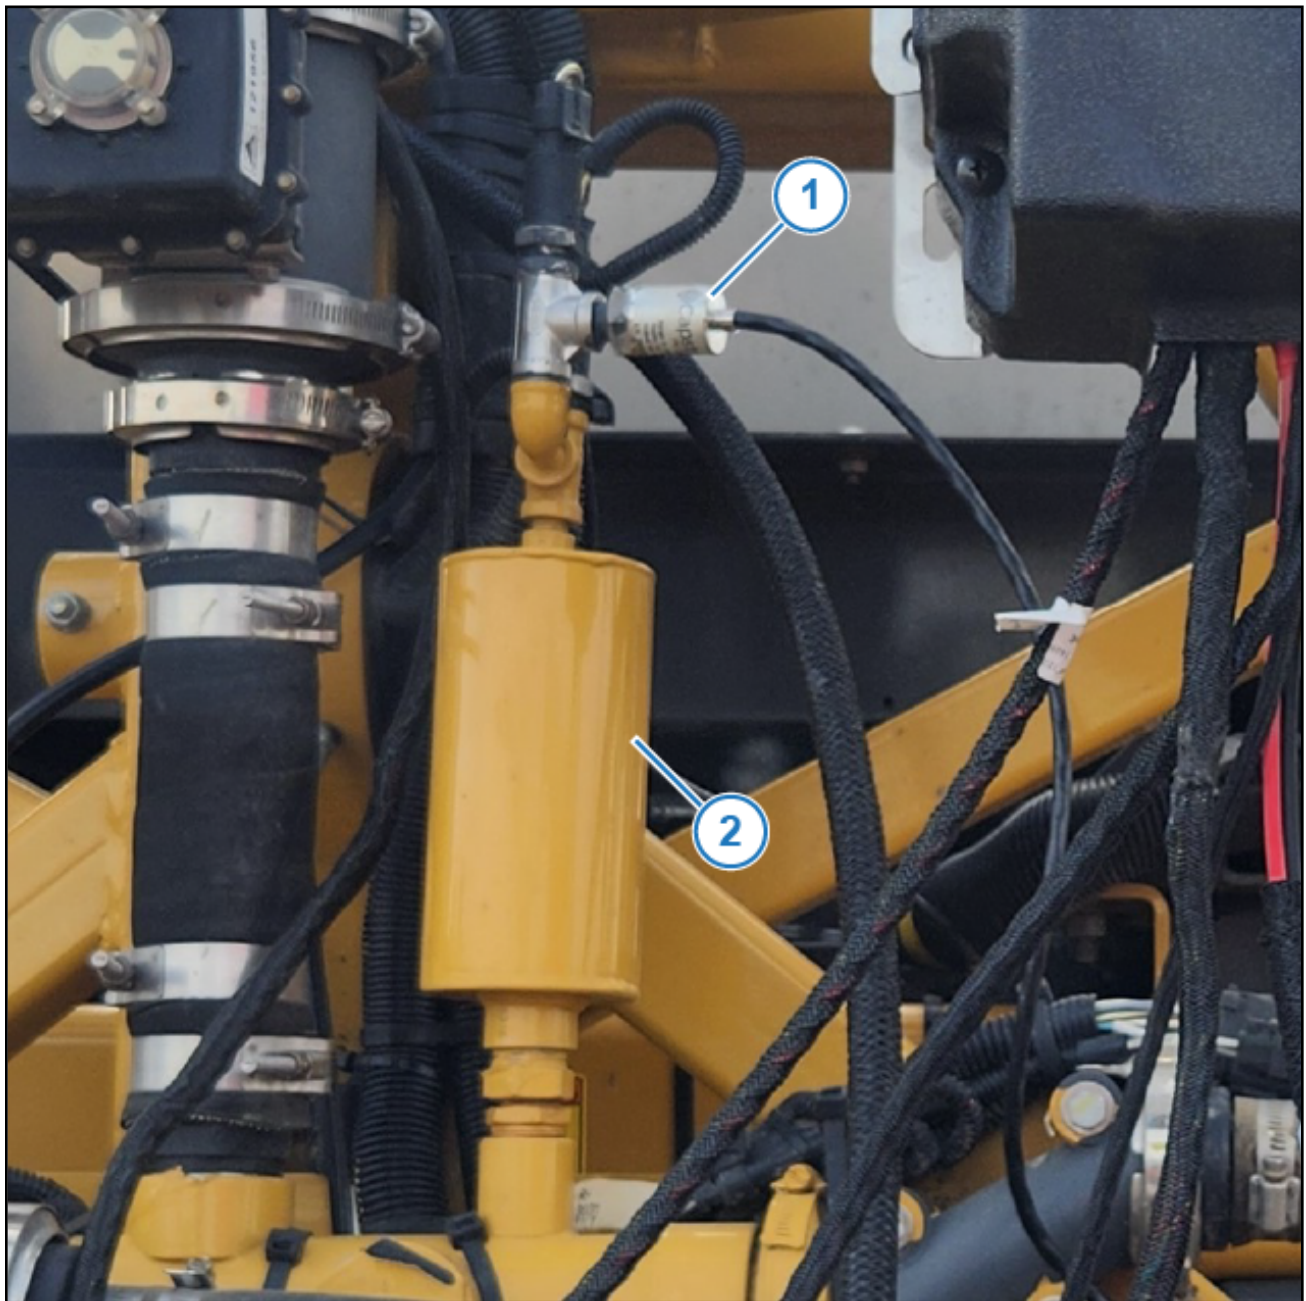

Figure 3: Pressure Sensor
4. Install the supplied pressure sensor (Figure 3, Item 1) and fitting in the accumulator (Figure 3, Item 2).